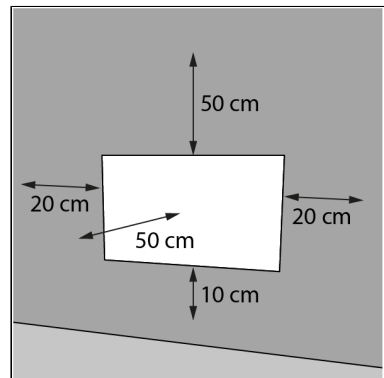

Figure 18.
2. Place the device with a minimum distance (Figure 18) of: